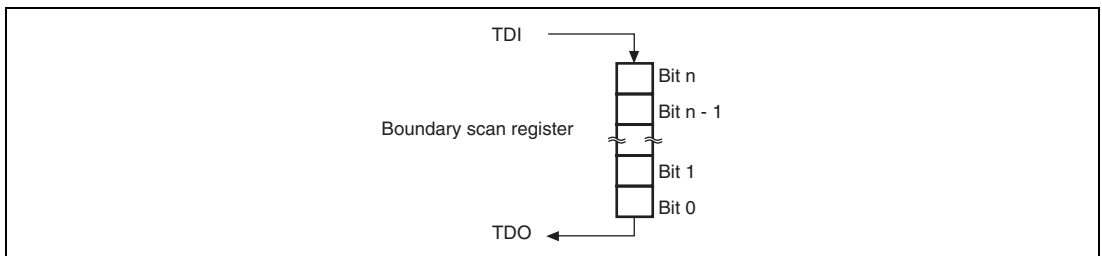

Figure 14.5 Serial Data Input/Output
4. In serial communication, data is input or output from the LSB as shown in figure 14.5.